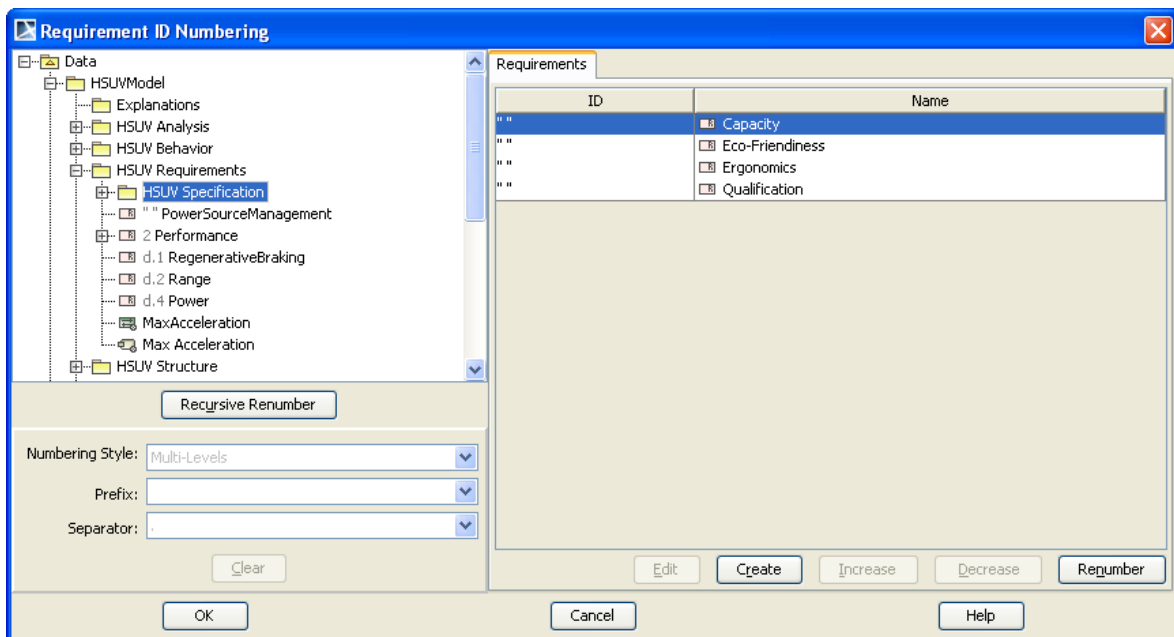

Figure 139 -- Requirement ID Numbering Dialog
2. The **Requirement ID Numbering** dialog will open (Figure 139). Select, for example, the **HSUV Specification** package in the browser on the left-hand side of the dialog. The requirements owned by the package will appear in the **Requirements** pane on the right-hand side of the dialog (Figure 139).